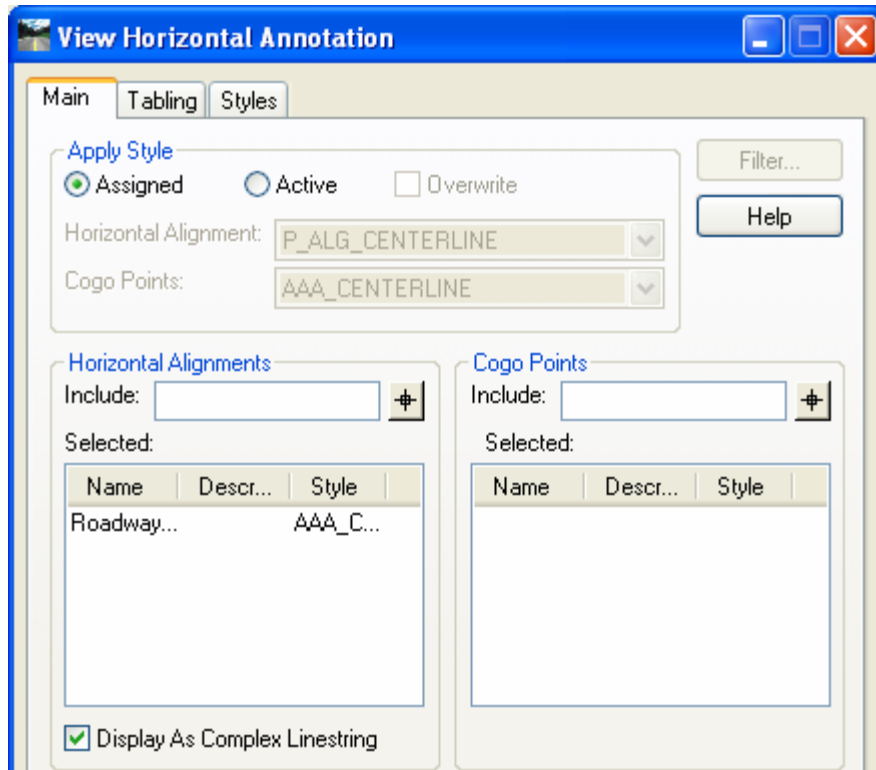

Figure 4-8 InRoads View Horizontal Annotation Dialog Box
- B. Click on the pick button and data point on the alignment to annotate. The alignment name should then be entered into the Annotate field see Figure 4-8.